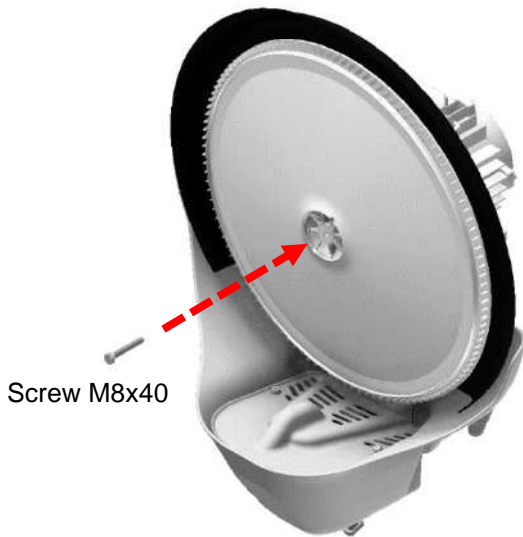

Fig. 4.4.3
- Insert the M8x40 screw supplied with the machine into the centre hole of the rotating disc (Fig. 4.4.3)